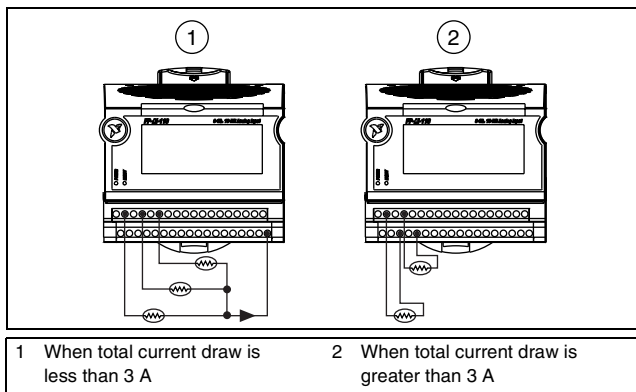

Figure 9. Connecting Power for Current Draws Below and Above 3 A
- When total current draw is less than 3 A, you can use a single terminal for the return path. If the total current draw is greater than 3 A, you should use separate C terminals, as shown in Figure 9.